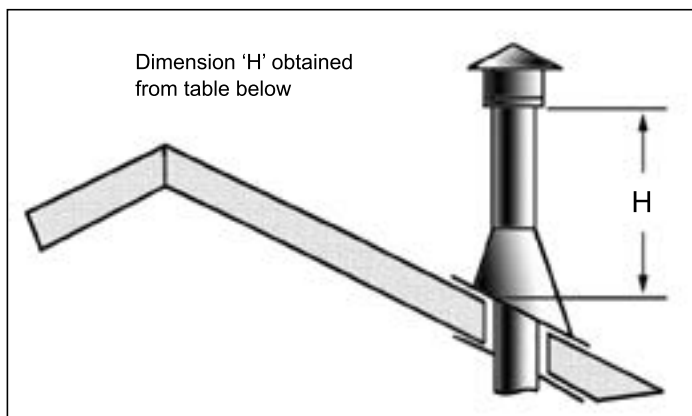

Figure 63: Height of Vertical Termination; Reference Table 7
- Step 8.** Continue to add pipe sections until the height of the vent cap meets the minimum code requirements. Refer to Figure 63 and Table 7. Note that for steep roof pitches, the vent height must be increased. In high wind conditions, nearby trees, adjoining roof lines, steep pitched roofs, and other similar factors can result in poor draft, or down drafting. In these cases, increasing the vent height may solve the problem.
Table 7: Minimum 'H' for Figure 63.